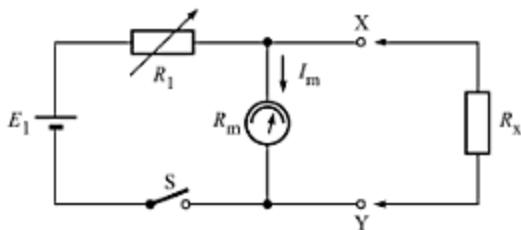

Fig. 18.19 Basic construction of shunt-type ohmmeter.
**(i) Shunt-Type Ohmmeter** The unknown resistor  $R_x$  is connected in shunt (i.e., in parallel) with the meter, as shown in Fig. 18.19. We then determine the ability of the unknown resistor  $R_x$  to bypass current through this shunt path. When  $R_x = 0$  (i.e., when the test-leads X and Y are shorted), all the current from the internal battery passes through this short and no current passes through the meter. On the other extreme, when  $R_x = \infty$  (i.e., when the test-leads X and Y are open), the entire current from the internal battery finds a path only through the meter. By proper selection of resistance  $R_1$ , the pointer can be made to read full scale. Thus, this ohmmeter has the 'zero' mark at the left-hand side of the scale (no current) and the 'infinite' mark at the right-hand side of the scale (full-deflection current). Such ohmmeters are suitable for the measurement of *low-value* resistors.